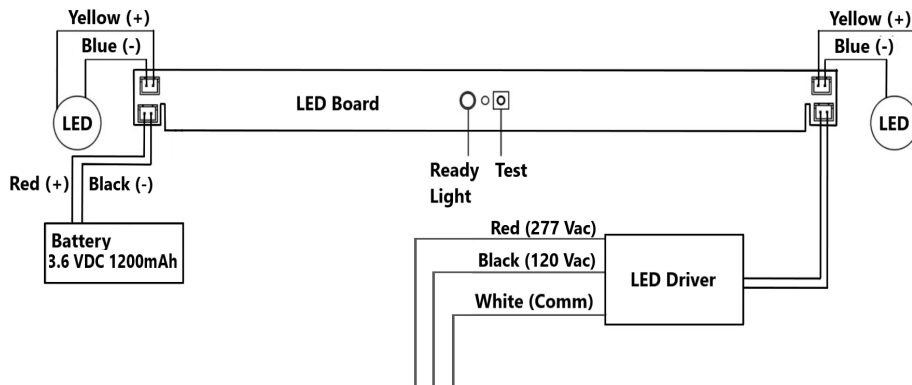

Figure 1 - Wiring Diagram
- Ensure that power is off, then connect the power supply, 120 or 277 VAC, to the appropriate input wires, using the provided wire nuts, according to the wiring diagram in Figure 1. The unused wire must be capped off using the extra wire nut.
- Ensure that power is off, then connect the power supply, 120 or 277 Vac, to the appropriate input wires, using the provided wire nuts, according to the wiring diagram in Figure 1.
- Using the provided (2) mounting screws, secure the fixture to the mounting bracket.